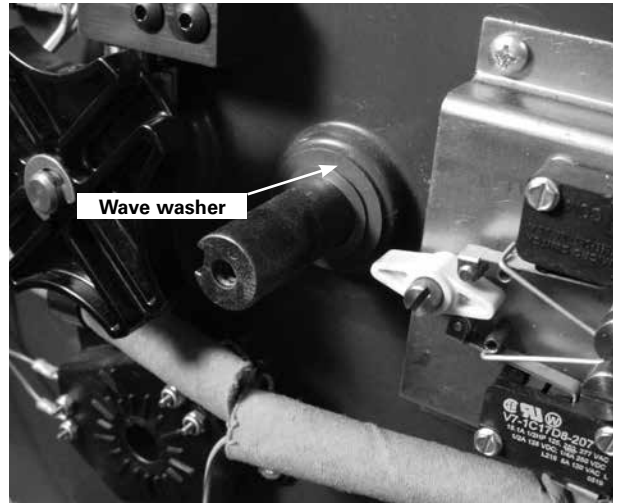

Figure 5. PI Cam wave washers
5. Remove the wave washer located between the cam and the front surface of the tap changer. See Figure 5.
6. Place the new wave washer over the shaft. See Figure 5.